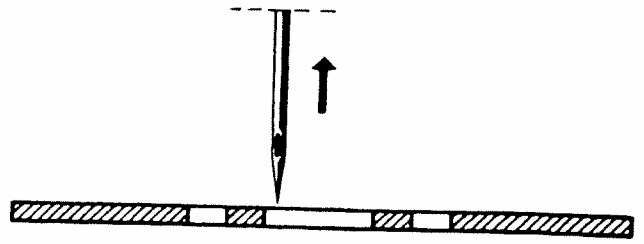

Fig. 14a
- Turn the handwheel in the normal direction of rotation until the point of the rising needle is at the top surface of the needle plate (fig. 14a).